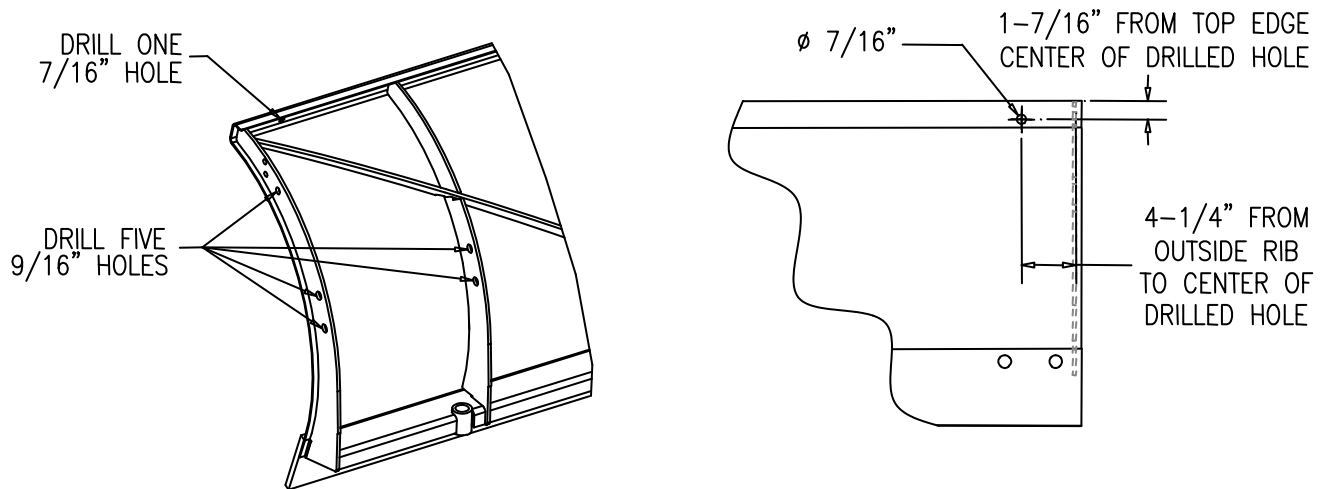

Figure 10. Blade Top Drilled Hole Measurements (POLY-V HOLES ARE PRE-CUT)
- 2) On Driver Side of plow, measure, mark, and drill one 7/16" diameter hole in Blade Top. See Figure 10.